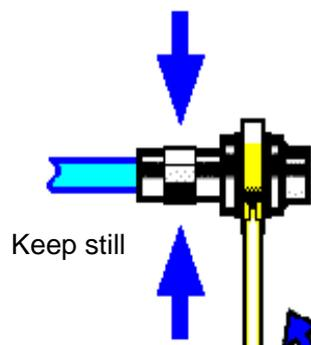

Figure 2.6 Completing the connection with a torque wrench
**Step 3.** As shown in Figure 2.6, the connection is completed with a torque wrench. Attention should be paid to prevent the torque wrench from exceeding the initial bending point. An auxiliary wrench can be used to prevent the connectors from rotating.